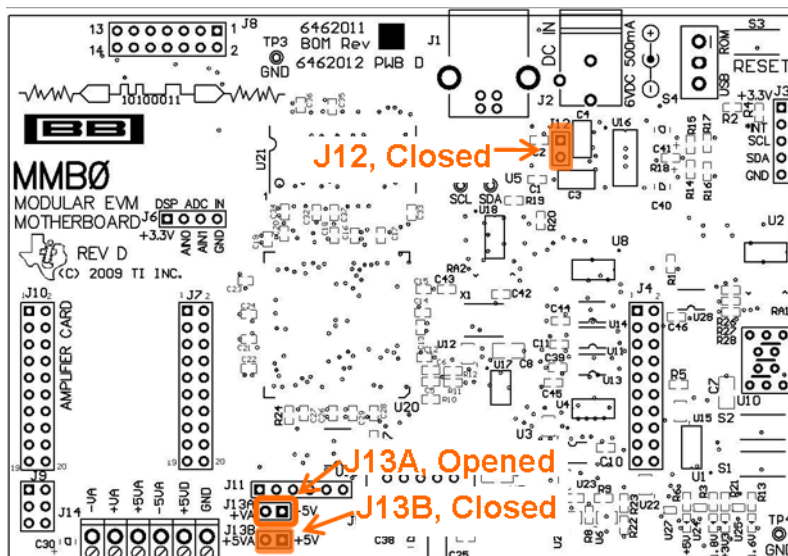

Figure 7. MMB0 Motherboard Jumper Configuration
- Step 2. Set J12 to closed, J13A to open, and J13B to closed on the MMB0, as shown in Figure 7.